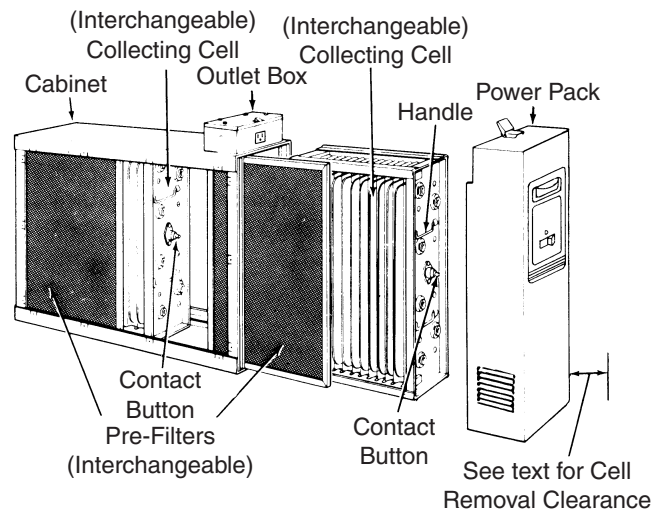

Figure 4
2. Allow the following clearances to permit removal of cells and pre-filters: (See Figures 4 and 5)
Your air cleaner is shipped from the factory to allow air flow from left-to-right. If this air flow is suitable for the installation, no changes need to be made (Figure 4). For right-to-left air flow, remove both pre-filter and cell sections. Turn cells upside down (with the same end
1. Place the air cleaner on the floor. Stand it upright with the power door facing you (Figure 4). If a horizontal installation is being planned, lay the air cleaner on its side, this will help you to visualize the relative location of all parts.